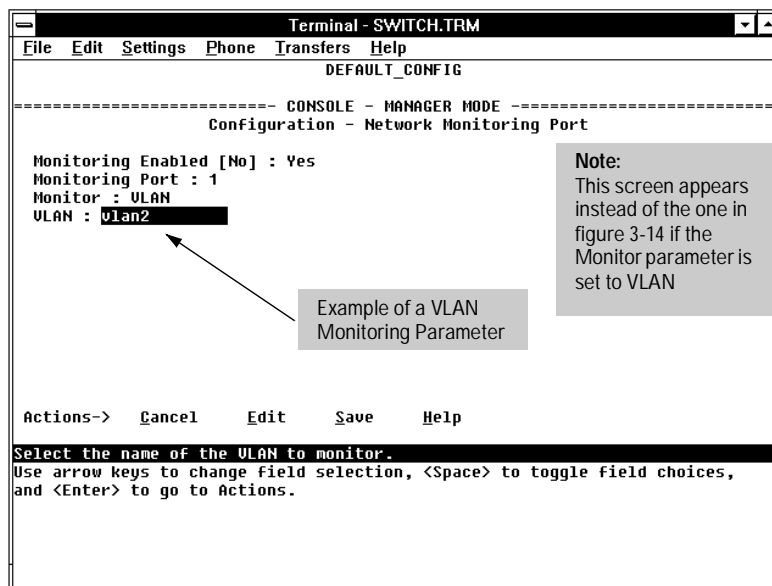

Figure 3-15. Example of Selecting a VLAN to Monitor
- If, instead of individual ports, you want to monitor all of the ports in a VLAN, press the Space bar to select **VLAN** in the **Monitor** parameter, then press **↓** to move to the **VLAN** parameter (figure 3-15). Then press the Space bar again to select the VLAN that you want to monitor. When you are finished, press **Enter**, then press **S** (for **Save**) to save your changes and exit from the screen.